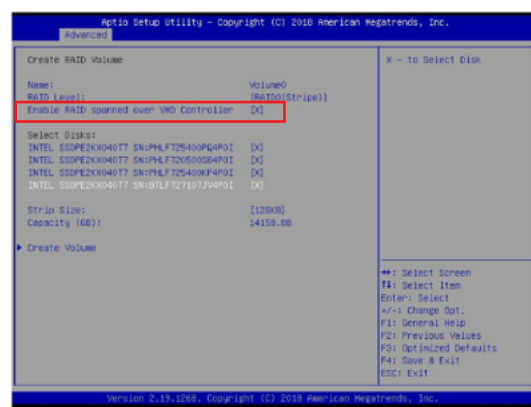

Figure E-4. Created Volume *with* enabling RAID spanned over VMD controller
11. If cross-controller RAID is required, select **Enable RAID spanned over VMD Controller** as shown in Figure E-4.